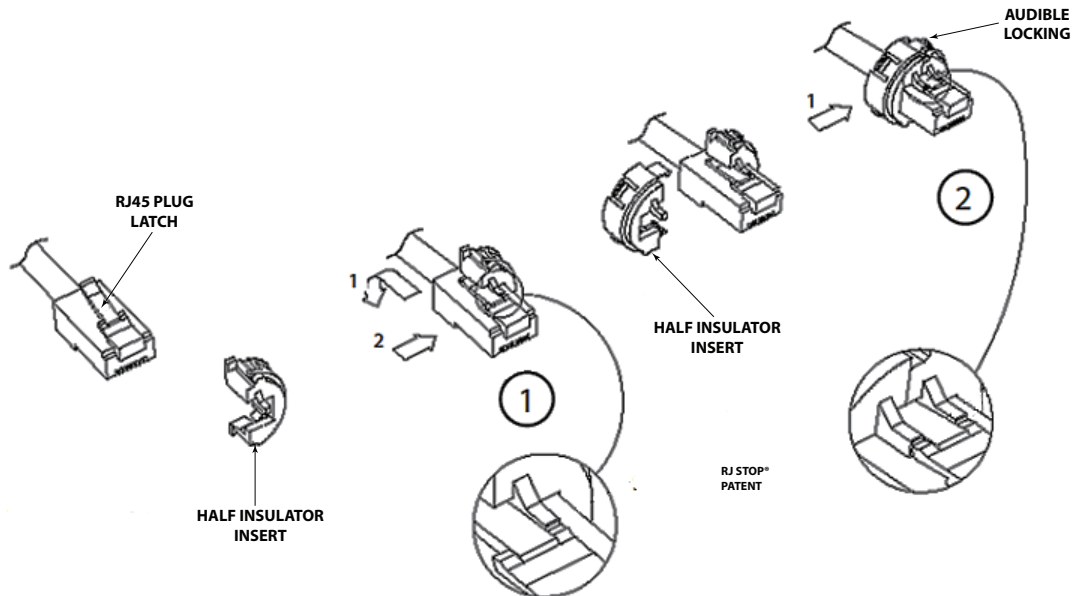

Figure 20: Insulator Assembly
2. Push down the RJ45 plug latch and place it inside one half of the insulator insert. Refer to Figure 20.